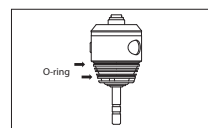

Fig. 7
- 6) Mount the Head Cap. First align the threads. Gently turn the Head Cap over the threads by fingers until finger tight. Use the Head Cap Wrench for final, secure turns. (Fig. 7).
- Make sure that two O-rings (Fig. 7) are in place on the Cartridge.